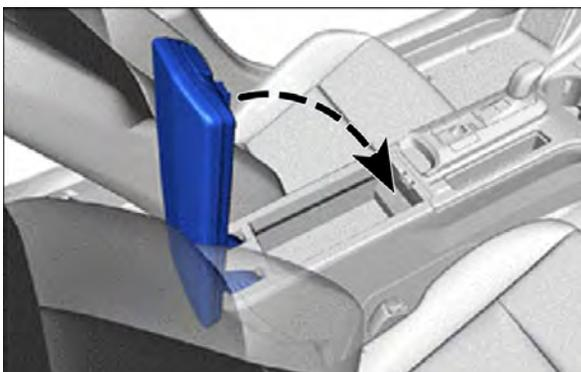

Figure 59
- (c) Close the upper console panel, as shown in Figure 59.